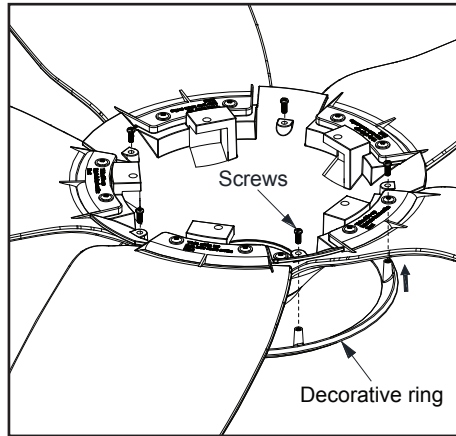

Figure 7
1. Attach the decorative ring through the bottom of the flywheel by aligning the holes on the decorative ring with the holes on the tab and install the screws. (Figure 7)